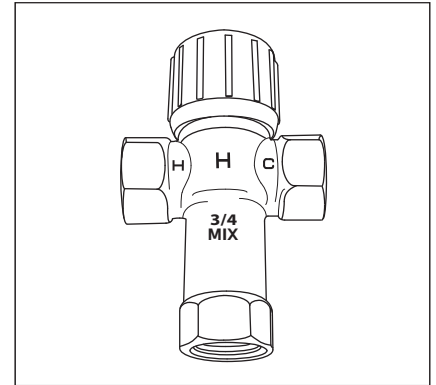

Figure 7 - Thermostatic Mixing Valves installed at each point-of-use can help prevent scalding.
- Point-of-use Thermostatic Mixing Valves (see Figure 7 on page 8).
Install Thermostatic Mixing Valves (Figure 7) to regulate the temperature of the water supplied to each point-of-use (for example, kitchen sink, bathroom sink, bath, shower). Consult the valve manufacturer’s instructions or a qualified person.
▲ WARNING! Even if the water heater thermostat is set to a relatively low temperature, hot water can scald. Install Thermostatic Mixing Valves at each point-of-use to reduce the risk of scalding (Figure 7).